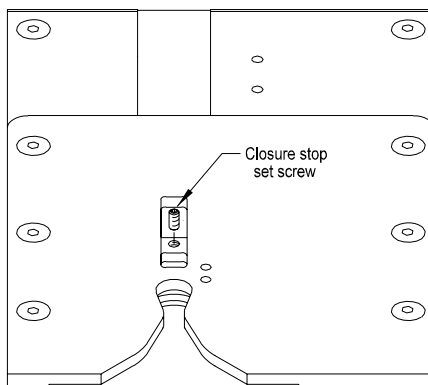

Figure 3.5
2. Locate the top of the setscrew (Figure 3.5).